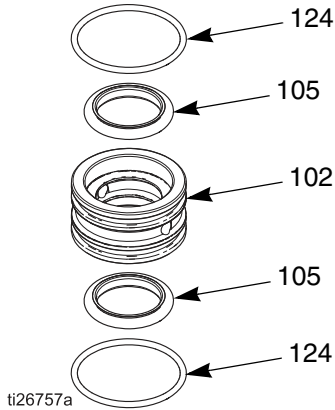

FIG. 21 Seal cartridge
- Reinstall the seal cartridges (see FIG. 21 for the order of the seals (105) and o-rings (124)) into the lower housing (101). Apply a thin coat of grease on